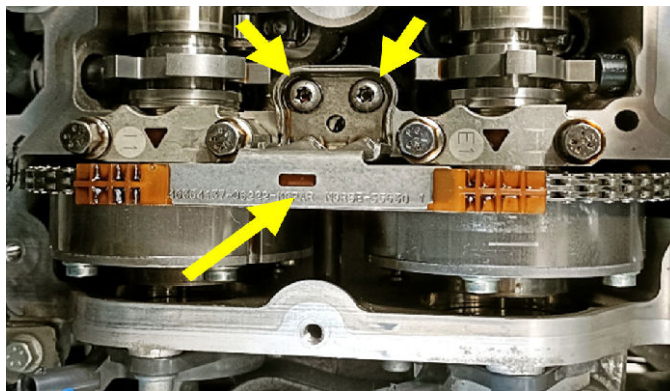

Fig. 15
25. Remove the old guide rail (“snubber”) Fig 15.